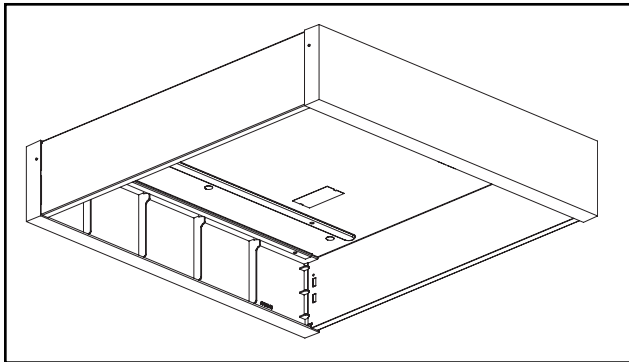

Figure 1.
1. Using the appropriate dimensions and fasteners described in Hole/Access Plate Locations (Diagram 1 and 2), rough in junction box and loosely secure the surface mount frame to the ceiling. Ensure the frame is square prior to fully securing the frame to the ceiling. Slots will allow for adjustment once the frame is attached. (see Figure 1)